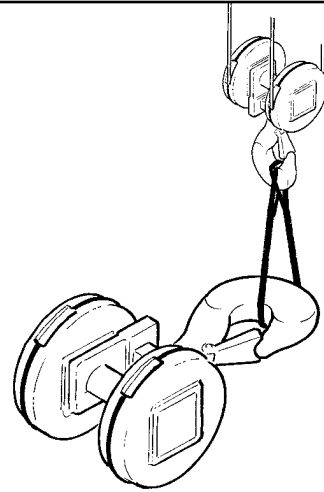

fig. 33
3. Release the hook block from the fastenings, if not already installed on the hoist, and position it on the floor, taking care to lift it with suitable means when its weight is over 30 kg (the weight, when necessary, is indicated on the item). Always use the hook as a point of harnessing or handling in the case of manual handling (fig. 33)